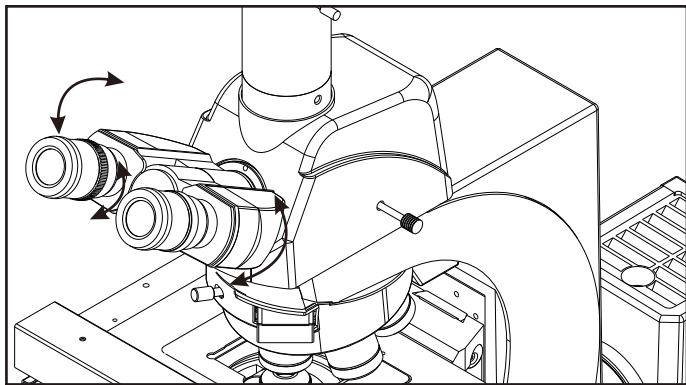

fig. 16
6. Turn the eyepiece tube of trinocular viewing unit to adjust the interpupillary distance (see Figure 16).
7. Adjust diopter adjustment ring as shown in Figure 16.